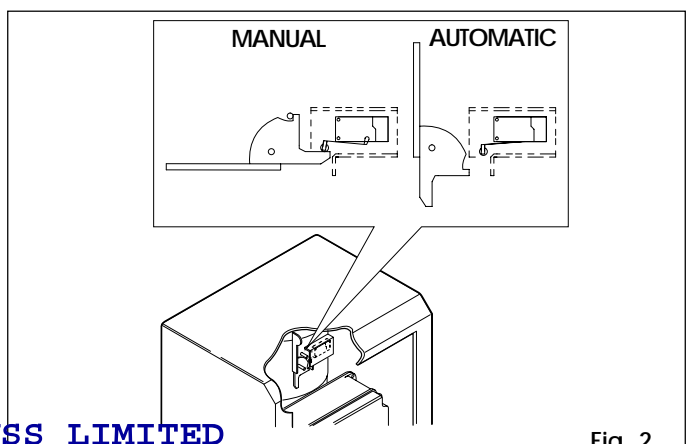

Fig. 2
- Operate the release lever shown in fig. 2 (pos. MANUAL).
- Move back the lever shown in fig. 2 up to the mechanical stop (pos. AUTOMATIC).